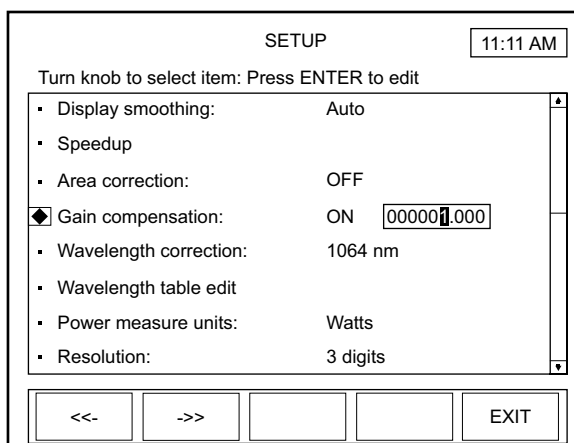

Figure 4-34. SETUP: Gain Compensation
3. Turn the Selection knob and display ON in the Gain Compensation field and then press the ENTER/SET button to move the highlight to the Gain Compensation value field (shown as 000001.000 in Figure 4-34).